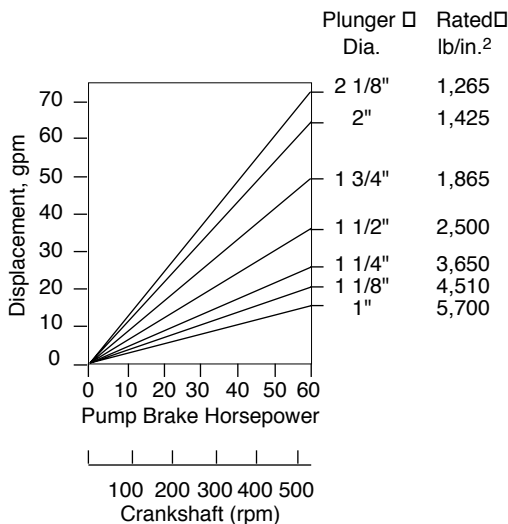

FIGURE 75. Reciprocating Pump Performance Curve
- The following data will outline the main terms involved in determining the performance of a reciprocating pump. Figure 75 shows a typical performance curve.